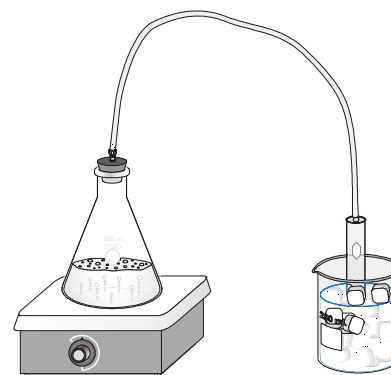

Figure 1
6. Assemble the apparatus as shown in Figure 1.